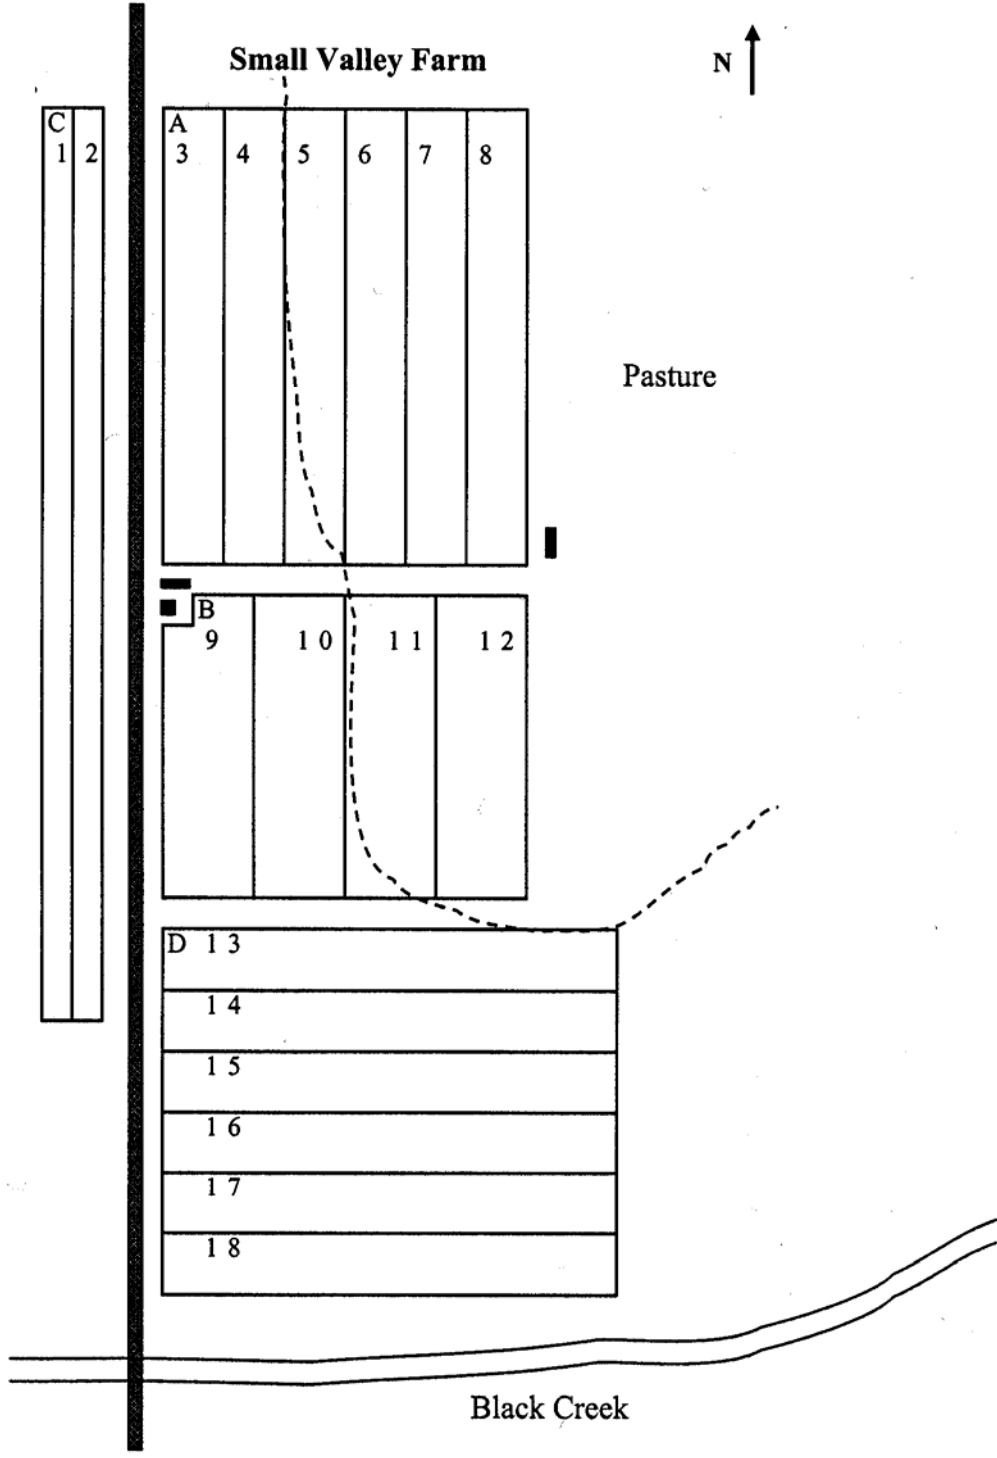

Figure 5.3. Map of Small Valley Farm showing location of management units. Dashed line shows boundary of steep land
acreage of a crop. Crops will move from one block of MUs to another between years. Dividing the farm into management units allows you to stay organized when moving crops that are grown on differing amounts of land around between fields that vary in size, shape and other important characteristics. Figure 5.3 shows how Small Valley farm laid out their 40 acre MUs across the farm.
- If you did steps 8 and 9 (rotation planning), the number of MU in a zone should be some multiple of the number of years in the longest rotation sequence for any zone. For example, for Small Valley farm, each zone should have six MUs, or some multiple of six, since the longest rotation sequence is 6 years (in Zone I). They chose to keep things simple and use six MUs per zone (Figure 5.3). If you skipped steps 8 and 9 due to high farm complexity, you can ignore this consideration.